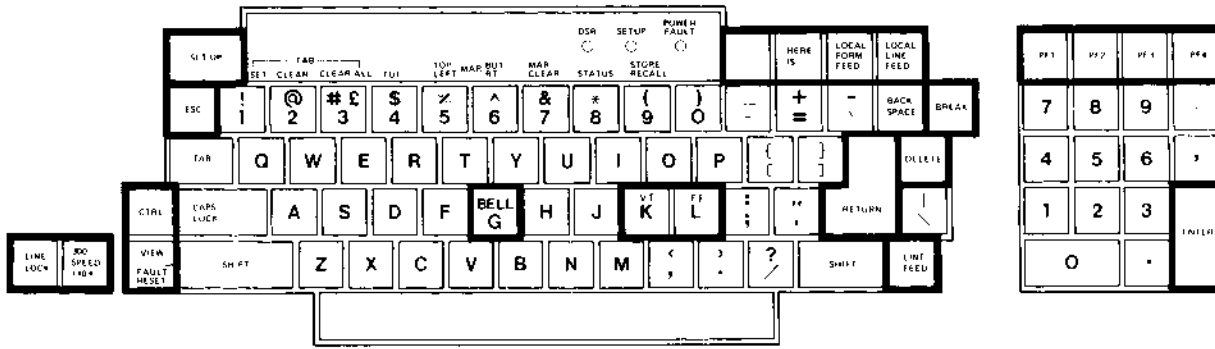

Figure 4-4 Special Function Keys
4.3.2.1 Special Function Keys – Figure 4-4 shows the special function keys on the keyboard. Table 4-2 lists all of these keys and their functions.
Table 4-2 Special Function Keys (Figure 4-4)
Table 4-2 Special Function Keys (Figure 4-4) (Cont)